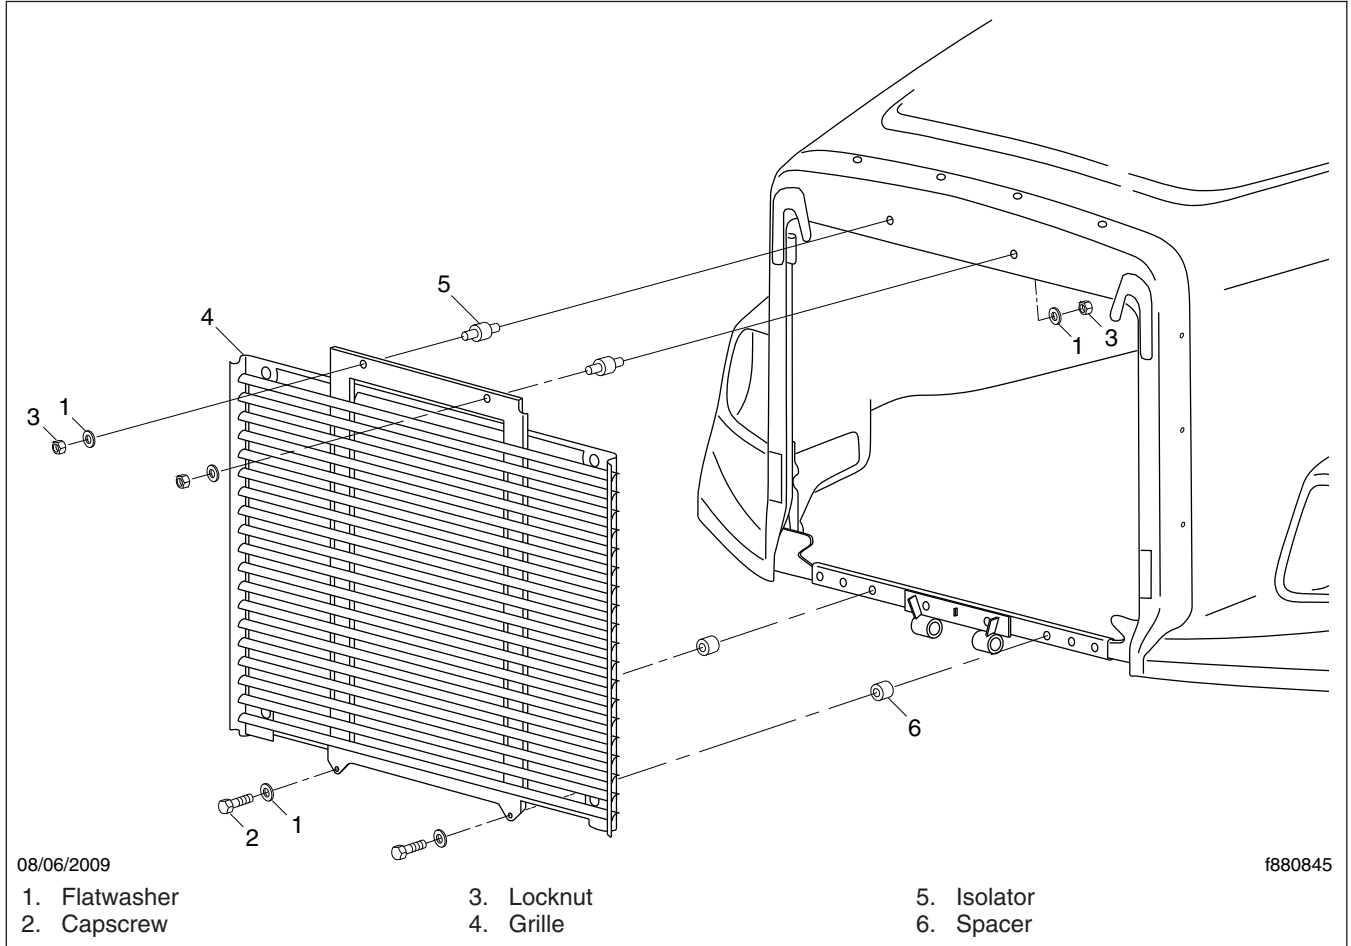

Fig. 4, Grille Installation
2.2 Remove the two capscrews and locknuts, and the flatwashers that attach the grille to the hood. There are two locknuts at the top, and two capscrews at the bottom of the grille. Remove the grille and the two lower spacers; see Fig. 4.
- 14.1 Position the grille on the hood. Install the two locknuts and flatwashers on the isolators at the top of the grille, the capscrews and flatwashers at the bottom, and place the two spacers between the grille and the hood crossbar; see **Fig. 4**.